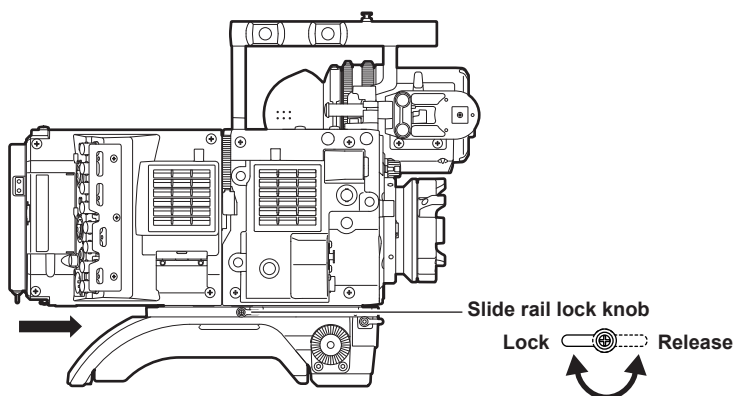

Fig. 3
- 4 Slide the camera forward along the groove in the shoulder mount module from the rear until it clicks. (Fig. 3)